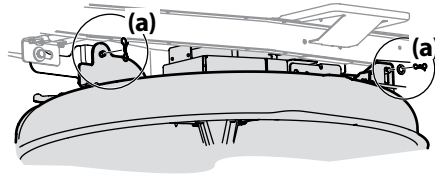

Figure 4-6
5. Remove the remaining bow-tie cotter pins (a) securing the deck to the riding mower, as shown in Figure 4-6.